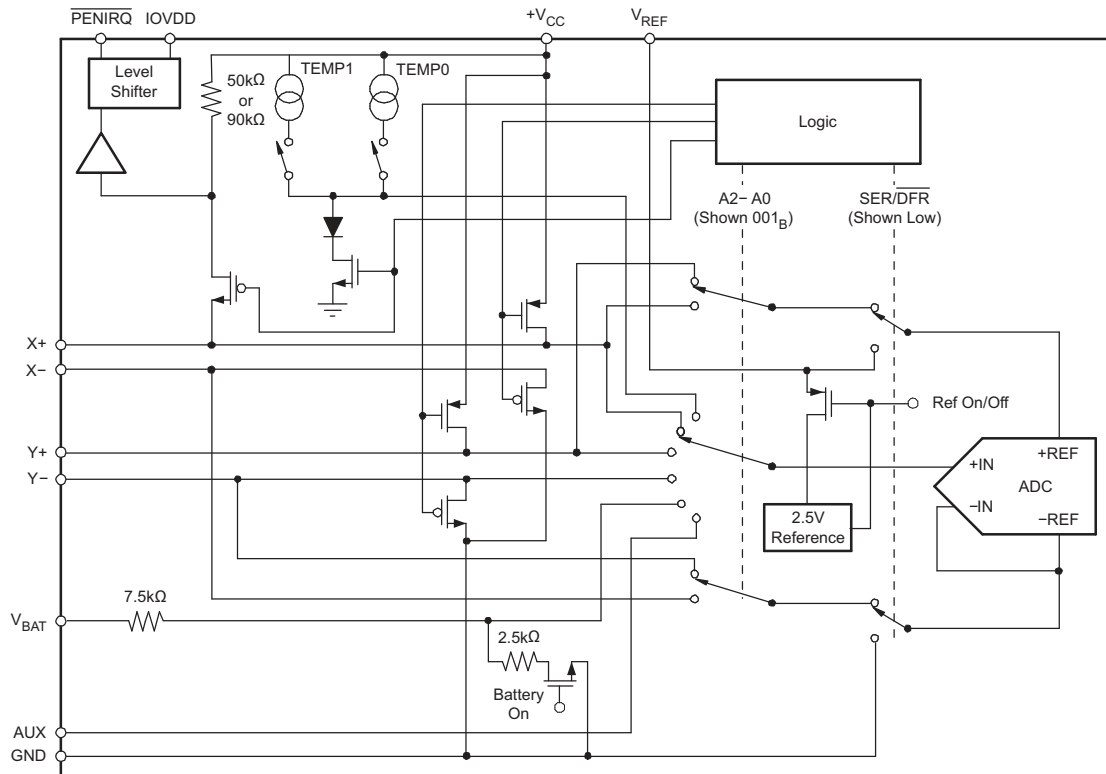

Figure 2. Simplified Diagram of the Analog Input
Figure 2 shows a block diagram of the input multiplexer on the TSC2046E, the differential input of the ADC, and the differential reference of the converter. Table 1 and Table 2 show the relationship between the A2, A1, A0, and SER/DFR control bits and the configuration of the TSC2046E. The control bits are provided serially via the DIN pin—see the Digital Interface section of this data sheet for more details.
When the converter enters the Hold mode, the voltage difference between the +IN and -IN inputs (see Figure 2) is captured on the internal capacitor array. The input current on the analog inputs depends on the conversion rate of the device. During the sample period, the source must charge the internal sampling capacitor (typically 25 pF). After the capacitor has been fully charged, there is no further input current. The amount of charge transfer from the analog source to the converter is a function of conversion rate.
The voltage difference between +REF and -REF (see Figure 2) sets the analog input range. The TSC2046E operates with a reference in the range of 1V to +VCC. There are several critical items concerning the reference input and its wide voltage range. As the reference voltage is reduced, the analog voltage weight of each digital output code (referred to as LSB size) is also reduced. The LSB (least significant bit) size is equal to the reference voltage divided by 4096 in 12-bit mode. Any offset or gain error inherent in the ADC appears to increase, in terms of LSB size, as the reference voltage is reduced. For example, if the offset of a given converter is 2LSBs with a 2.5V reference, it is typically 5LSBs with a 1V reference. In each case, the actual offset of the device is the same, 1.22mV. With a lower reference voltage, more care must be taken to provide a clean layout including adequate bypassing, a clean (low-noise, low-ripple) power supply, a low-noise reference (if an external reference is used), and a low-noise input signal.
**Addressing**—The next three bits (A2, A1, and A0) select the active input channel(s) of the input multiplexer (see Table 1, Table 2, and Figure 2), touch screen drivers, and the reference inputs.
**SER/DFR**—The SER/DFR bit controls the reference mode, either single-ended (high) or differential (low). The differential mode is also referred to as the ratiometric conversion mode and is preferred for X-Position, Y-Position, and Pressure-Touch measurements for optimum performance. The reference is derived from the voltage at the switch drivers, which is almost the same as the voltage to the touch screen. In this case, a reference voltage is not needed as the reference voltage to the ADC is the voltage across the touch screen. In the single-ended mode, the converter reference voltage is always the difference between the  $V_{REF}$  and GND pins (see Table 1 and Table 2, and Figure 2 through Figure 5, for further information).